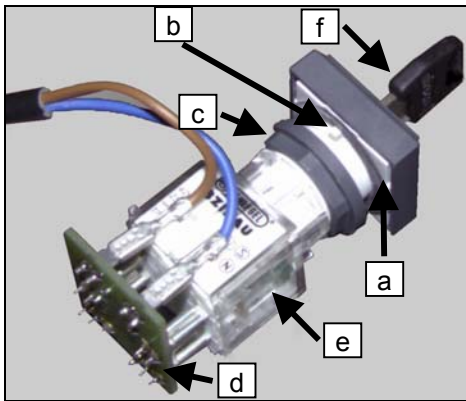

Fig. 22
- The hole for the key-operated switch is located left of the mains switch. Insert the key-operated switch (Fig. 22, a) into the hole, so that the fastening projection (Fig. 22, b) is in the groove of the hole.
- Tightly screw up the key-operated switch (Fig. 22, a) using the nut (Fig. 22, c).
- Attach the board of the key-operated switch (Fig. 22, d) to the contact maker (Fig. 22, e).
- Attach both cable sockets to the flat plugs of the board of the key-operated switch (Fig. 22, d).
- In order to prevent the key-operated switch from damage, the contact maker (Fig. 22, e) may only be attached or detached, when the key-operated switch is in middle position (Fig. 22, f). Attach the contact maker (Fig. 22, e) to the key-operated switch (Fig. 22, a) so that both cable connections are on the same side as the fastening projection (Fig. 22, b) of the key-operated switch. See Fig. 22. In order to detach the contact maker (Fig. 22, e), turn it by 45° and remove it from the key-operated switch (Fig. 22, a).